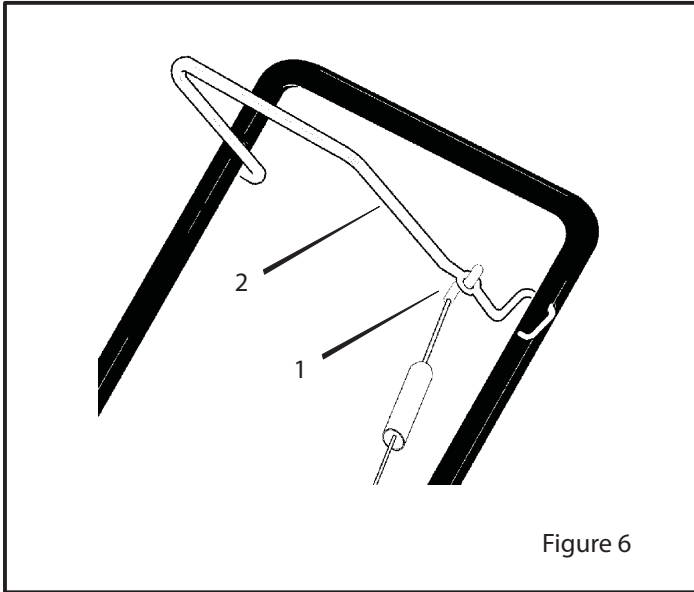

Figure 6
1. **(Figure 6)** Remove the "Z" hook (1) from the auger drive lever (2).
7. **(Figure 6)** Install the "Z" hook (1) to the auger drive lever (2).